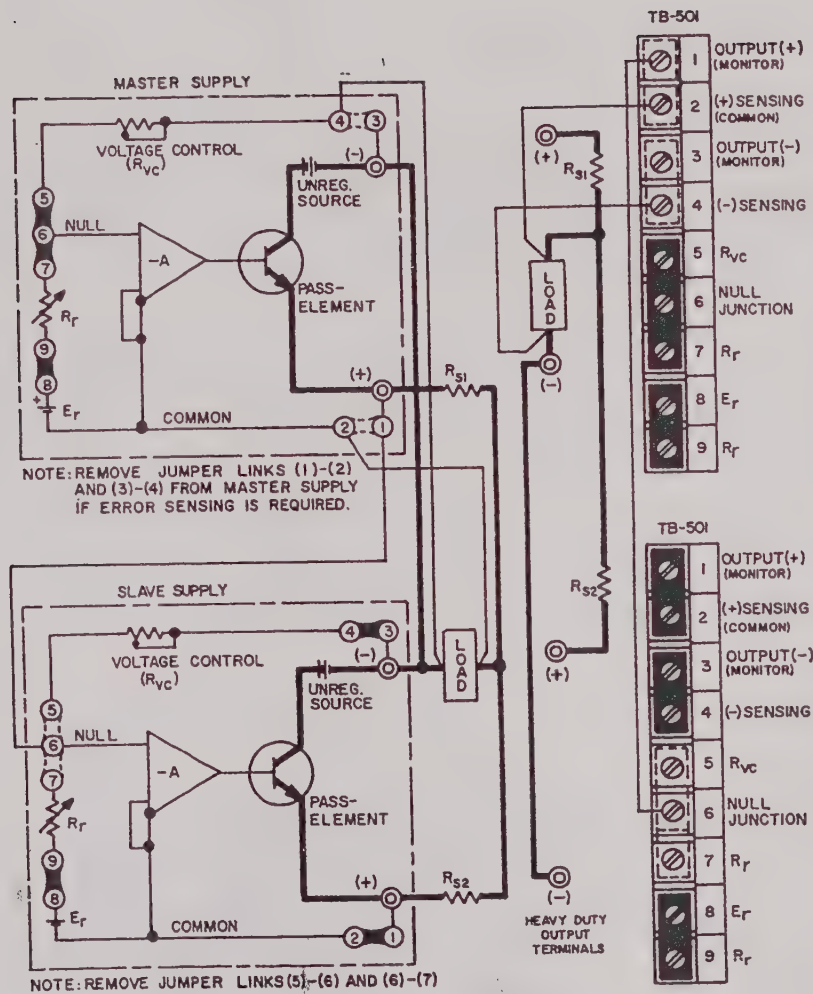

FIG. 3-14 MASTER SLAVE PARALLEL CONNECTION OF KEPKO POWER SUPPLIES
- 3-45 **MASTER/SLAVE PARALLEL CONNECTION.** Two power supplies are shown in FIG. 3-14, although more can be paralleled, each unit requiring its own sampling resistor. The sampling resistors (R_{s1} , R_{s2} in FIG. 3-14) are of equal value and are selected such that the voltage drop across them (due to the output current), plus the voltage drop in the load connection leads does never exceed 0.5 volts. If the voltage drop across the load connecting leads alone is at least 0.1 volt, the sensing resistors can be deleted since the leads provide the necessary sample voltage. For equal current sharing, however, the lead *length* and *diameter* should be the same for both power supplies. Output control is exercised from the "Master" supply.
- 3-46 **PROCEDURE FOR "MASTER/SLAVE" PARALLEL OPERATION (See FIG. 3-14)**
- 2) Make all load and sensing connections as shown in FIG. 3-14. The error sensing connections may be deleted if the minor voltage drop across the load wires (which subtracts from the available compliance voltage) can be tolerated.